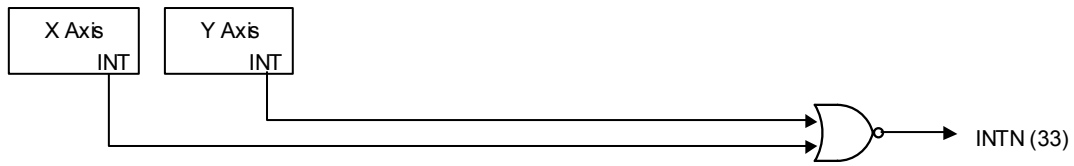

Fig. 2.25 Interrupt Signal Path in IC
There is only one interrupt signal, INTN (33), to the host CPU. So, the signal will be OR calculated, then output, as shown in Fig. 2.25.